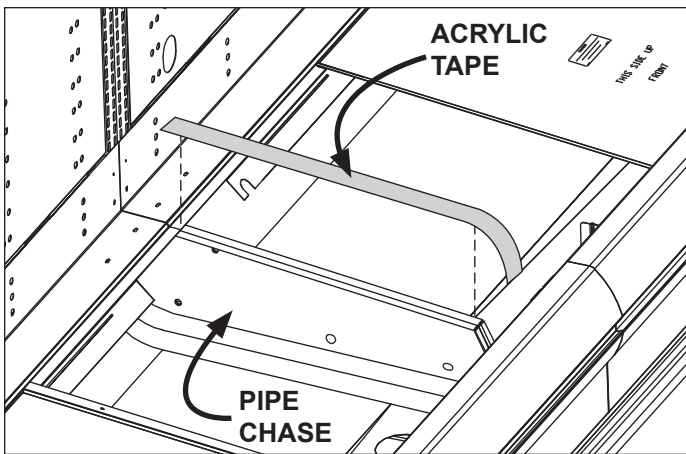

Fig. 2 Sealing the pipe chase
3. Apply the foam tape gasket (supplied) and a bead of butyl or silicone sealant to the end of the first case (Fig. 2). From the opposite end, push the second case to a position that is approximately 6" from the first case, then remove the remaining casters and position case on the shim packs.
4. Push the cases tightly together, then lightly bolt them together through the holes that are provided (Fig. 2). Tighten all the joining bolts until all margins are equal. Be careful not to over tighten.
7. Attach the "J" rail with the supplied screws (Fig. 2).